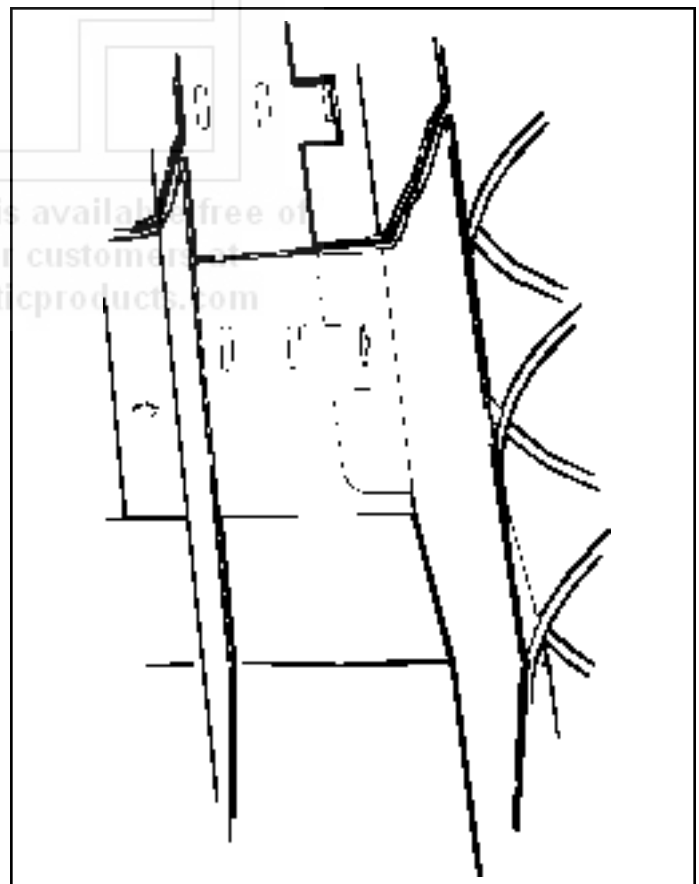

Figure 4. Alignment of moveable product spacers.
5. **Product Spacers, 4-Selection Shelf.** A product spacer is used to reduce the width of the product area and should be used on any 4-selection snack shelf where the product width is 4-1/2" or less. Spacers should fit within 1/8" of the product but should not fit tight against the product. There are three positions in each snack space where these spacers can be placed. To install the spacer, align the lock ears (on the lower edge of the spacer) with one of the three sets of slots (one front and one rear). (Figure 4.) Push the spacer to the rear to allow the ears to enter the slots, then allow the spacer to move forward. Be sure the ears are in the same set of slots, front and rear. (Figure 4.) Continue loading all spirals. Adjust with spacers where needed in the top shelf. Return the top shelf to the vend position and following this procedure, load the remainder of the large spiral shelves. The shelf divider separating the right (lock side) column from the next column is movable to allow vending of products wider than 5-1/2" in the second column. If this is used, the right column must be used to vend narrower products.